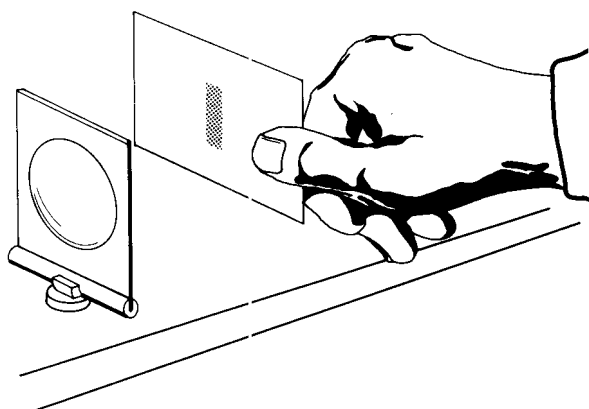

Figure 9. The beam can be followed from source to screen using this method. The maximum amount of light should be transmitted by each component.
- B. You also want the lens to focus the most light possible. Find the beam of light coming from the slit by letting it hit another 3 X 5 index card you hold. See Figure 9. Make sure that the lens is in the center of this beam. If it isn't, slide it sideways into the center, but do not move it any closer to the slit.